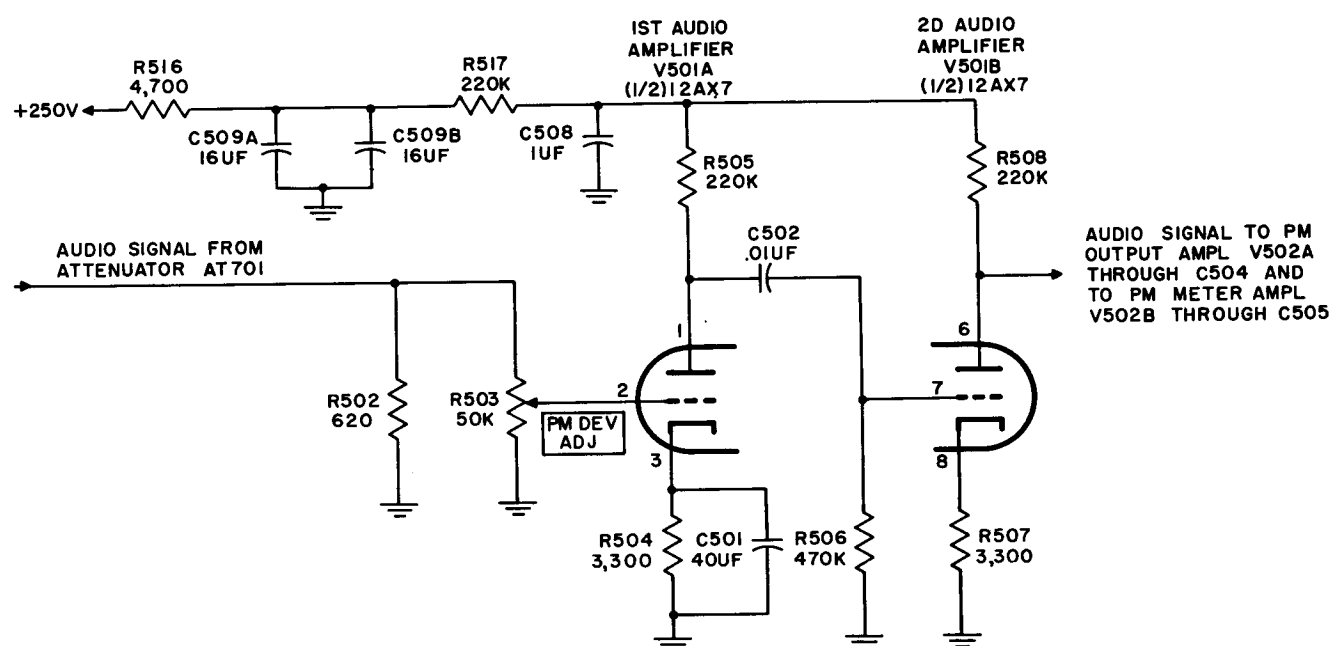

Figure 34. First and second audio amplifier, simplified schematic diagram.
66. First Audio Amplifier V510A (fig. 34)
(fig. 34)